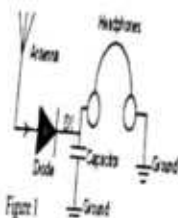

Figure 1
What if I said that you would be able to receive (RX) radio communications using the following items or lack thereof: no batteries, but only a diode, capacitor, some wire and a pair of headphones? Many of us probably think that it cannot be done. On the contrary, this is what our first radios were like. Please note Figure 1.
So what is selectivity? Selectivity is a radio's ability to separate one channel from another. Sensitivity, on the other hand, is the ability to receive a weak signal reliably (some things that our basic radio receiver in Figure 1 doesn't have).